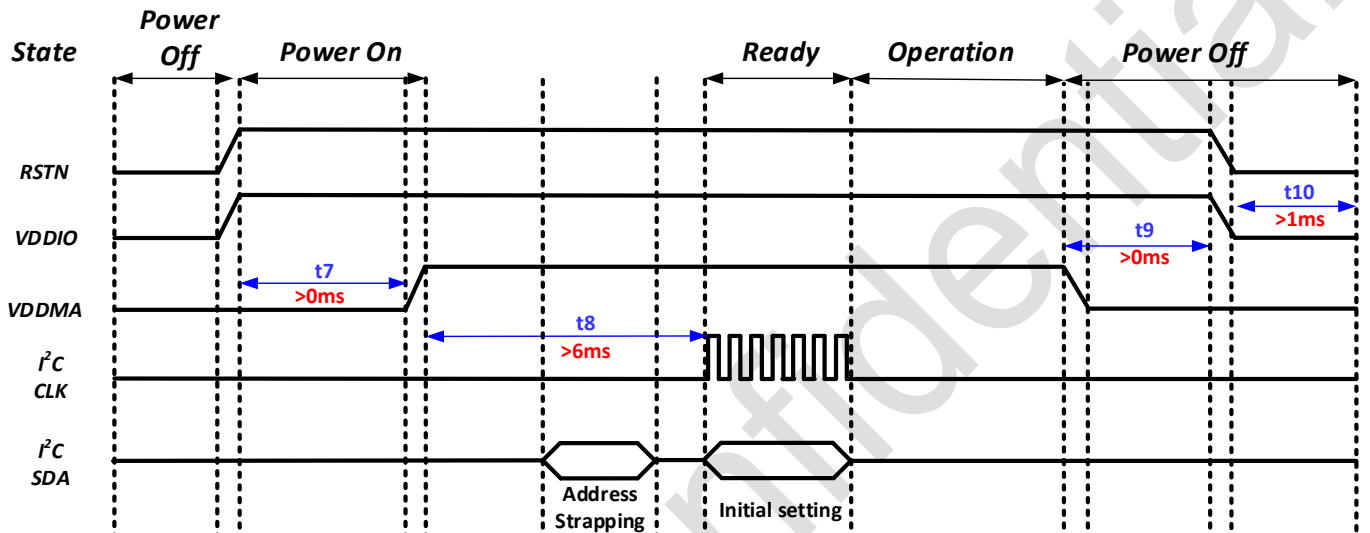

Figure 12. Power On/off Timing Diagram without Reset Control
- VDDIO and VDDMA power on at same time or follow the sequence as shown in Figure 12.
- VDDMA and VDDIO power off at same time or follow the sequence as shown in Figure 12.